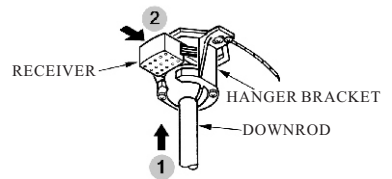

FIG.5
2. Carefully lift the fan and seat the down rod ball assembly on the hanger bracket. Be sure the groove in the ball is lined up with tab on the hanger bracket. Do not pinch wires between the ball and down rod assembly and hanger bracket (see Fig.5)